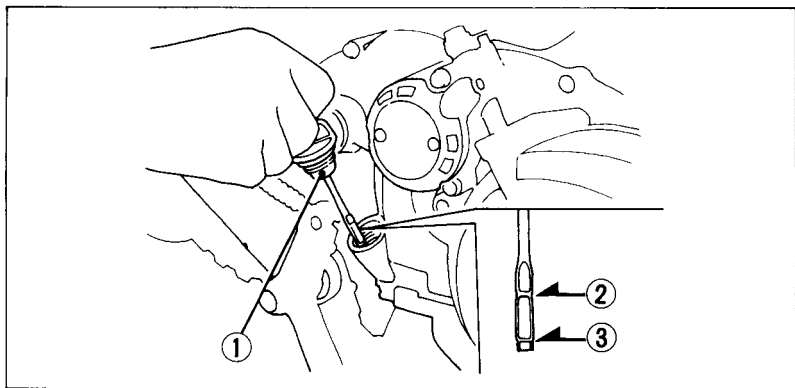

Fig. 4-10
2. Remove the oil filler cap/dipstick (Fig. 4-10) from the right crankcase cover and wipe it clean.
3. Insert the dipstick without screwing it in, then remove the dipstick and check the oil level. The oil level should be between the upper level mark (2) and the lower level mark (3) on the dipstick.
1. With the TRX300 on level ground, remove the oil filler cap/dipstick from the right crankcase cover (Fig. 4-10).